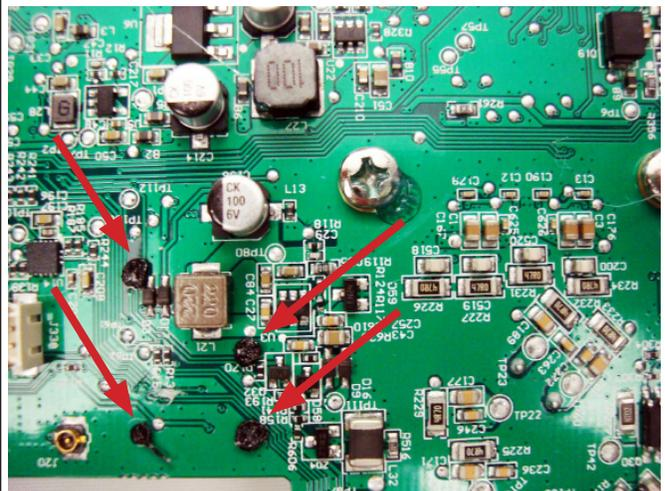

Figure 27
9.4 Figure 27 shows the Bluetooth® button which is heat staked as indicated at the arrows. Wire cutters will be needed to remove the excess plastic.